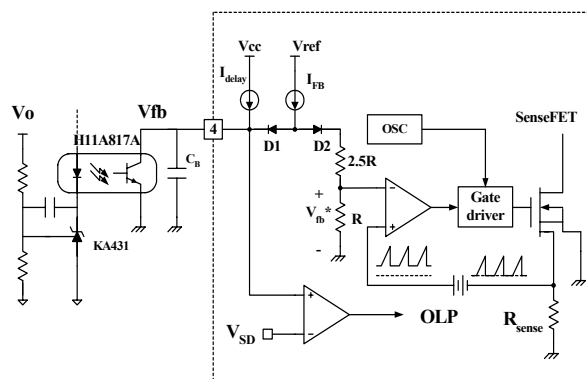

Figure 5. Pulse width modulation (PWM) circuit
2. Feedback Control : FSDM0565R employs current mode control, as shown in figure 5. An opto-coupler (such as the H11A817A) and shunt regulator (such as the KA431) are typically used to implement the feedback network. Comparing the feedback voltage with the voltage across the R_{sense} resistor plus an offset voltage makes it possible to control the switching duty cycle. When the reference pin voltage of the KA431 exceeds the internal reference voltage of 2.5V, the H11A817A LED current increases, thus pulling down the feedback voltage and reducing the duty cycle. This event typically happens when the input voltage is increased or the output load is decreased.
2.1 Pulse-by-pulse current limit: Because current mode control is employed, the peak current through the Sense FET is limited by the inverting input of PWM comparator (V_{fb}*) as shown in figure 5. Assuming that the 0.9mA current source flows only through the internal resistor (2.5R + R = 2.8 kΩ), the cathode voltage of diode D2 is about 2.5V. Since D1 is blocked when the feedback voltage (V_{fb}) exceeds 2.5V, the maximum voltage of the cathode of D2 is clamped at this voltage, thus clamping V_{fb}*. Therefore, the peak value of the current through the Sense FET is limited.